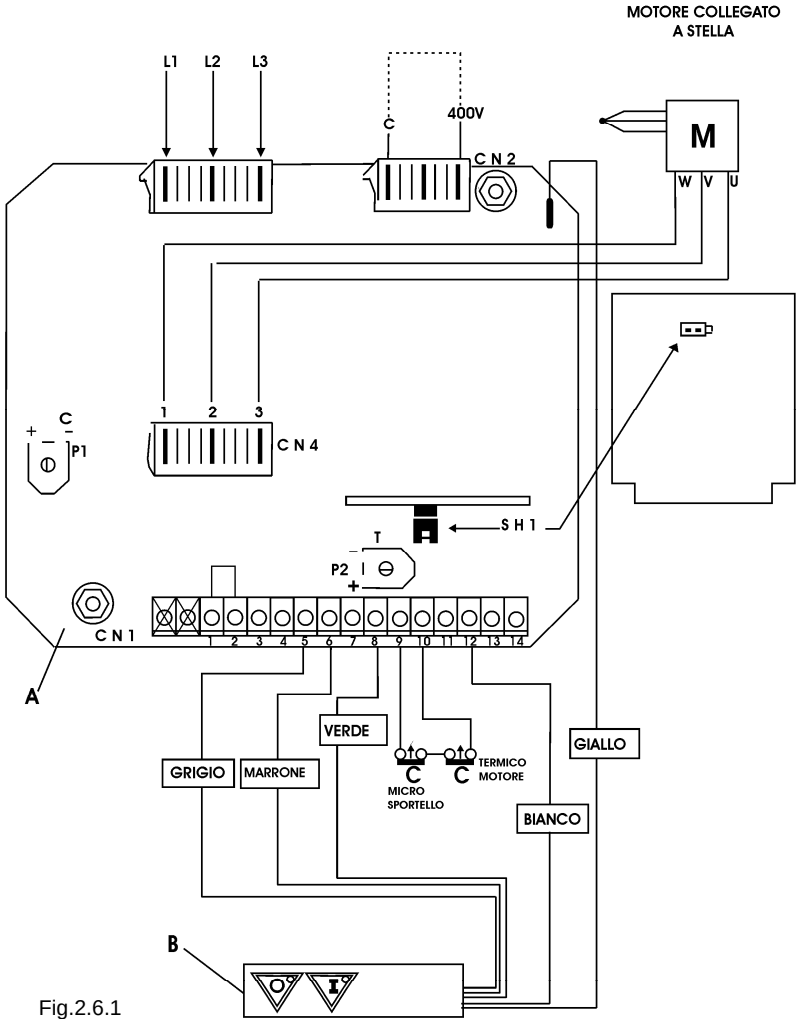

Fig. 2.6.1
2.6.1 Three-phases wiring diagram at 400V (Fig. 2.6.1)